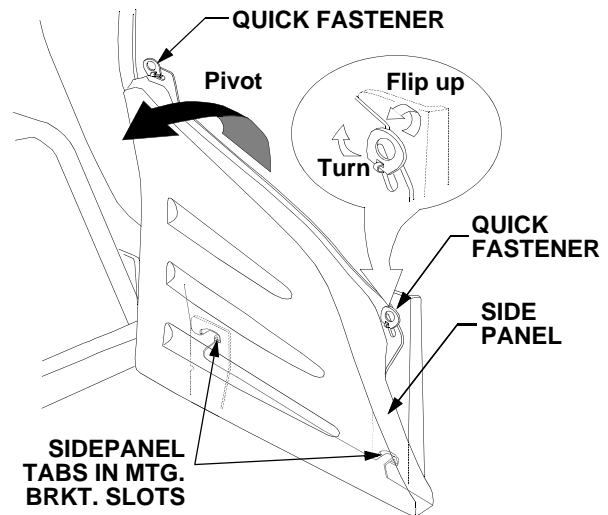

Figure 32
- Flip the tabs of the two quick release fasteners up and turn to align with the slots in the side panel. See Figure 32.
- Pivot the top of the side panel until the two tabs at the bottom of the panel can be withdrawn from the slots of the side panel mounting brackets; then remove the side panel. See Figure 32.
- Insert the two side panel tabs into the slots of the side panel mounting brackets. See Figure 32.